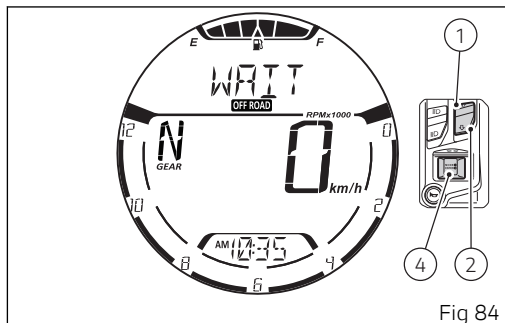

Fig 84
If ABS has been manually disabled, the function "ABS: OFF" is already displayed, press button (1). After pressing button (1), the message "WAIT" will be displayed for 2 seconds instead of "ABS: ON" (Fig 84). After 2 seconds, if the ABS system has been activated correctly, the display will show the previous screen but with the message "ABS: ON".